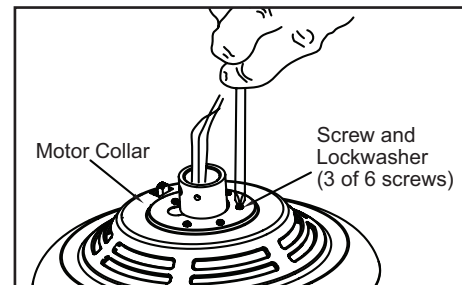

Figure 10
4. Remove three of the six screws and lock washers (every other one) securing the motor collar to the top of the fan motor housing (Figure 10).